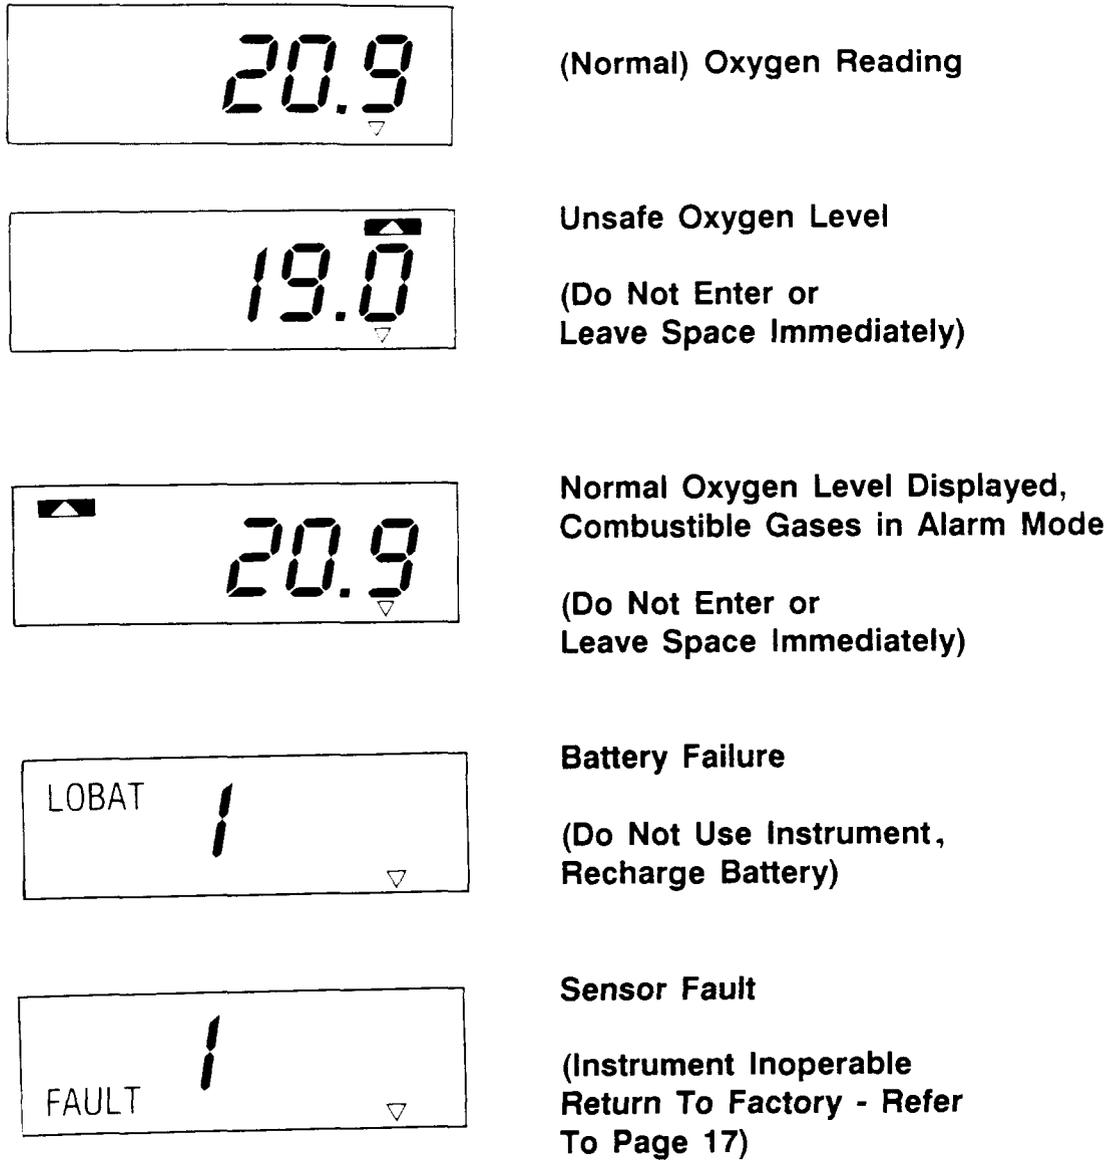

Figure 2 - Display and Alarms
- 2.02 Although only one gas can be displayed at a time, both alarm circuits are active and continuously monitoring for unsafe conditions. If either of the gases reaches a preset safety limit, the audible and visual alarms are activated immediately. The audible alarm is a high pitched tone that alternates between two frequencies at the rate of approximately two times per second. A rectangular LCD enunciator appears near the top of the display panel to indicate which gas or gases caused alarm activation. The LCD will continue to display the readout of the gas range last selected by touching one of the membrane switches. (See figure 2).
- 5.07 When the battery pack is almost fully discharged (approximately 1/2 hour of operating time remaining), the monitor will start to emit short audible tone bursts to warn of a low battery pack condition. The tone bursts are about one to five seconds in duration and two to three minutes apart. The duration increases in length until the batteries are no longer capable of supplying sufficient power. Then, the monitor will go into the battery failure mode. The battery failure mode is indicated by all of the display digits being blanked except for the numeral (1) at the far left position; the word LOBAT appears in the upper left corner of the display; and the audible alarm sounds a continuous tone. (See Figure 2.) The above condition will continue for several minutes or until the monitor is switched off. When battery pack fail mode occurs, recharge the battery pack for at least 14 hours before reuse. (Refer to 6.01 Charging).
The MX251 Monitor is also equipped with circuitry that detects LEL sensor faults. If a fault condition should occur, the monitor will go into a failure mode similar to the low battery failure mode and the word FAULT will appear in the lower left corner of the display. (See Figure 2)